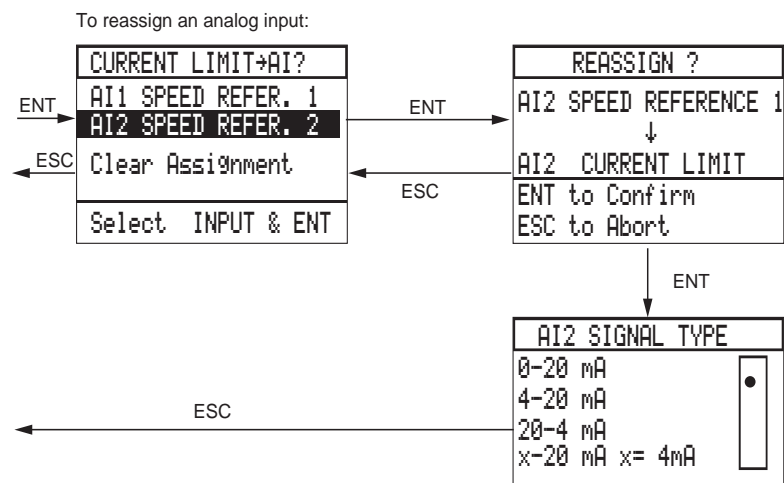

Figure 43: Reassigning Analog Inputs
- **Analog Input:** assign an analog input to Current Limit (see Figure 43 on page 73 for procedure). The set current limit is ignored and the analog input is scaled so that the adjustment range of current limit is 40% to 110% of the drive controller current. This function could be used as a drive current reference for motor torque control.